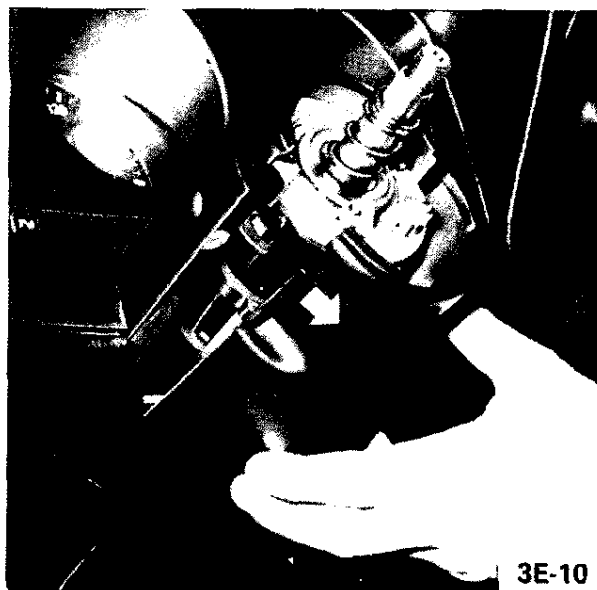

Figure 3E-10 Lower Half of Signal Switch Housing Cover
4. Unscrew lower half of signal switch housing cover. See Figure 3E-10.
5. Remove hex nut from steering mast jacket attachment at front of dash panel. See Figure 3E-7.